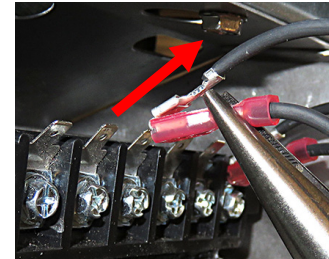

Figure 22
23. Remove the left black line voltage piggyback connector to the transformer (see Figure 22).